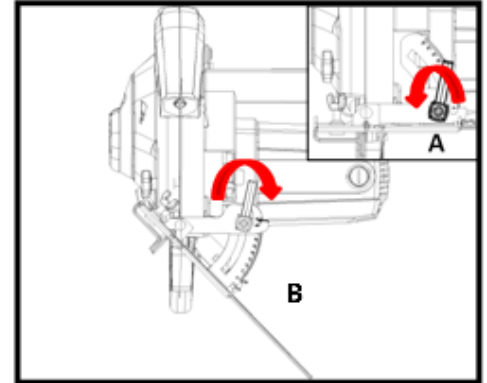

Fig.6
1. Loosen the handle (A), adjust the angle plate to the desired bevel angle (0°-45°) (B) and re-tighten the handle (A). Fig.6